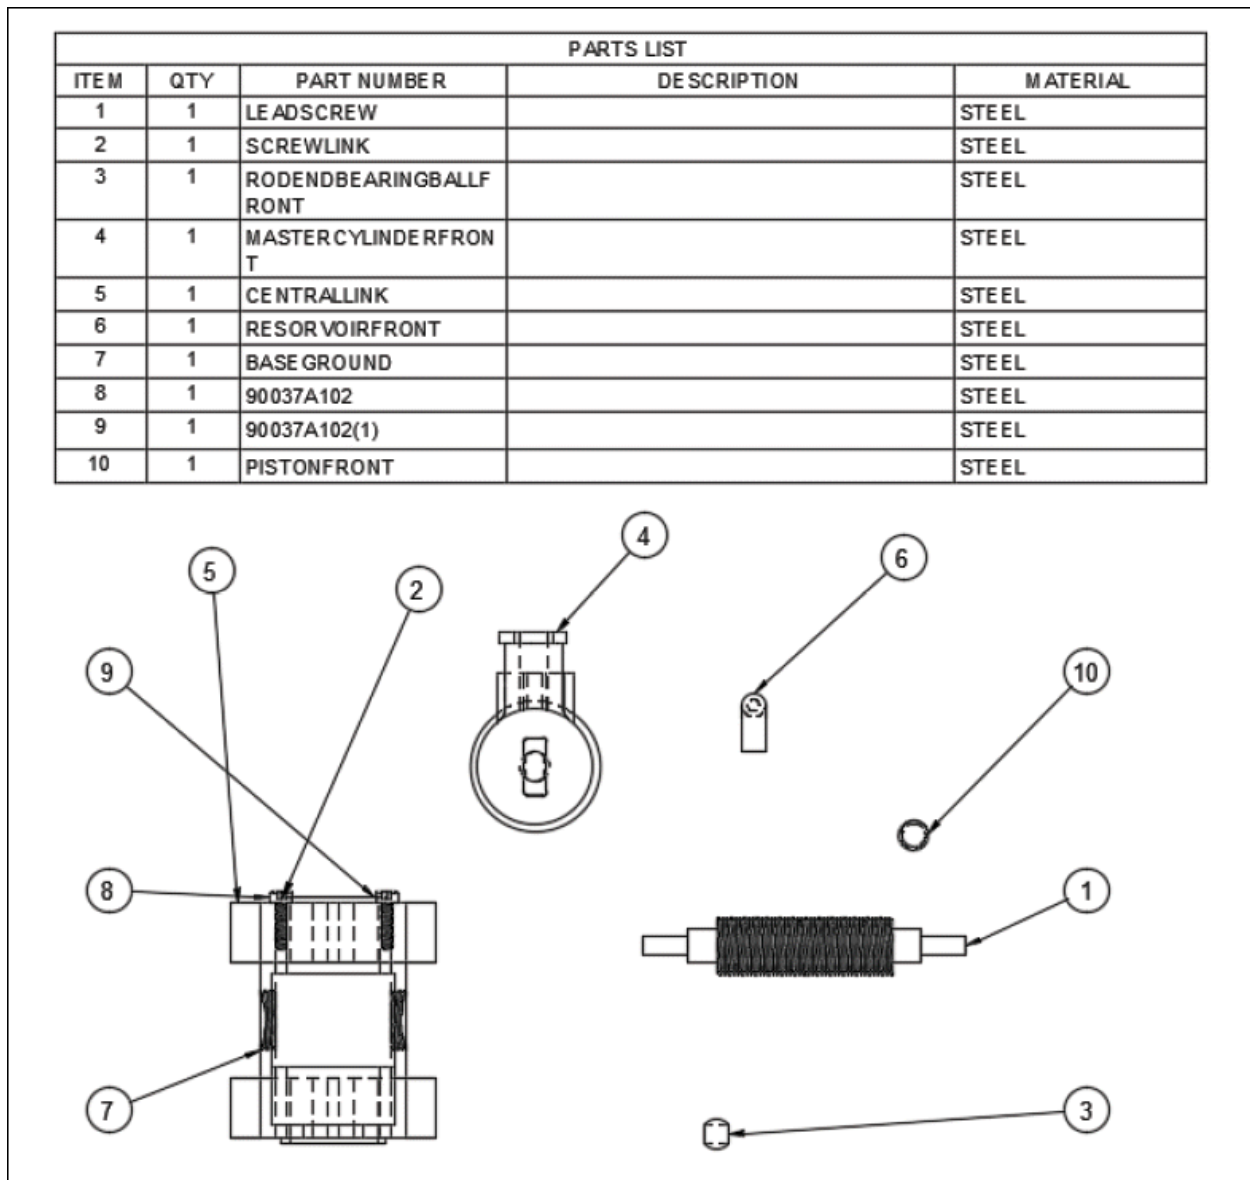

Figure-160. Parts list of assembly generated
- Click at desired location in the drawing sheet to place the parts list. Parts list will be generated with balloons; refer to Figure-160.